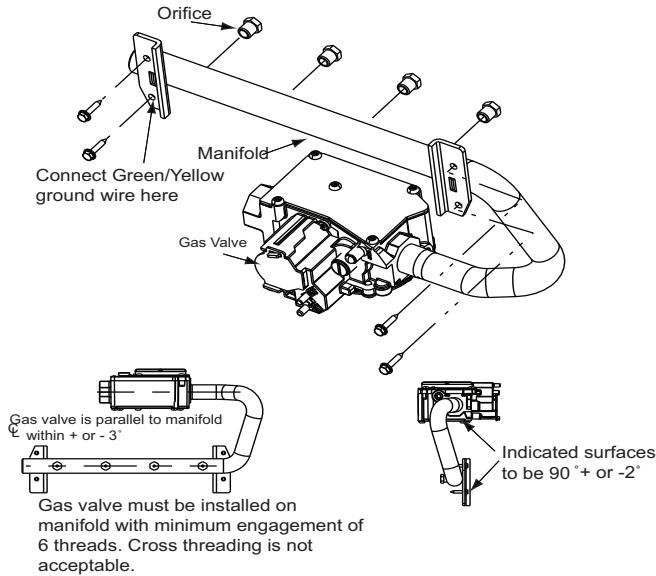

Fig. 2 – Manifold Assembly
3. Support the manifold and remove the four (4) screws that secure the manifold assembly to the burner box and set aside.
4. Note the location of the green/yellow wire ground wire for re-assembly later, see Fig. 2.